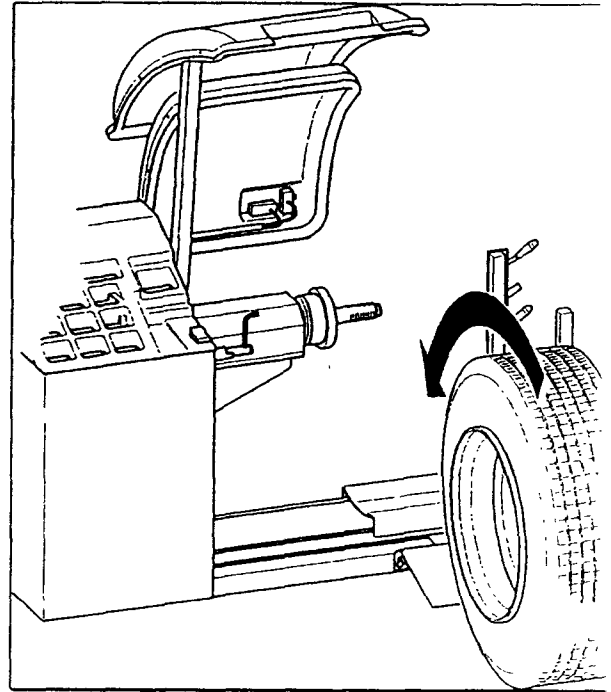

Fig.19
- B. Move the sliding plate of the wheel lift all the way out and roll the wheel onto it (Fig.19).